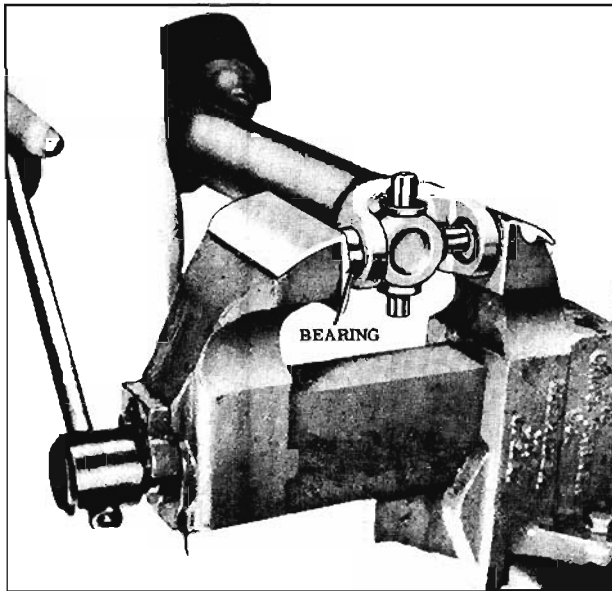

Fig. 10-147 Installing Bearings
5. Press a bearing into one side of yoke until retaining ring can be installed. (Fig. 10-147)